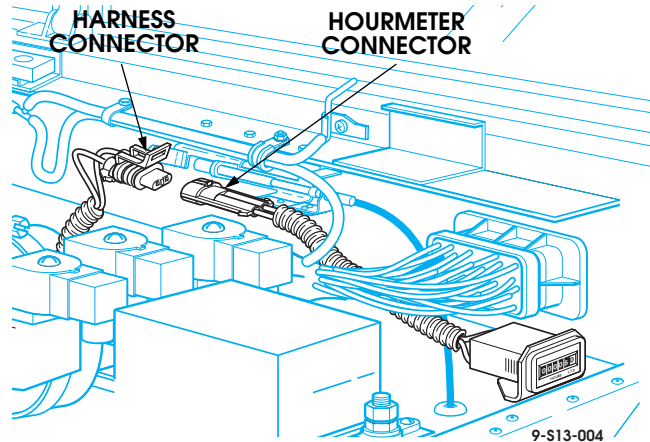

Figure 13-65: Electrical Connector Location
5. Follow lead from hourmeter to electrical connectors and unplug connectors (Figure 13-65).
3. Plug engine harness connector into hourmeter connector (Figure 13-65).